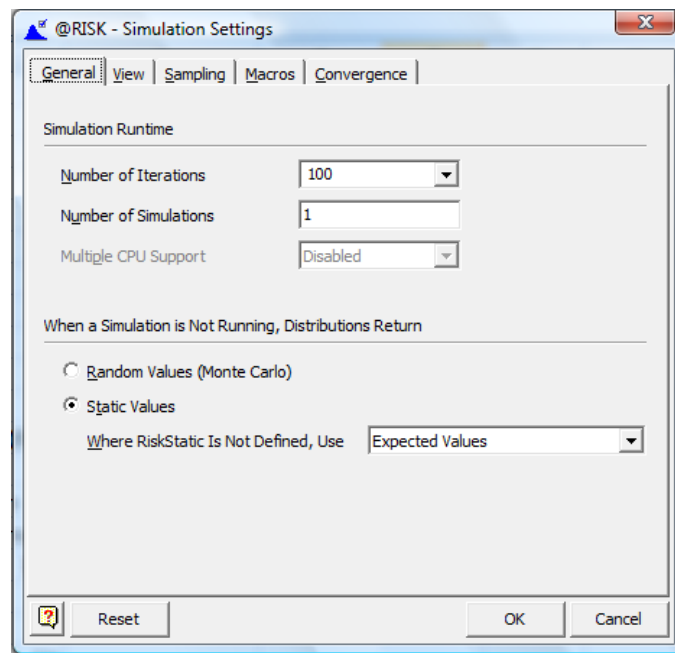

Figure 6: Some simulation settings
7.1. In the **Simulation area** of the @RISK ribbon you can access the options related with the Simulation settings by clicking on the button . Figure 6 shows the @RISK - Simulation Settings window.